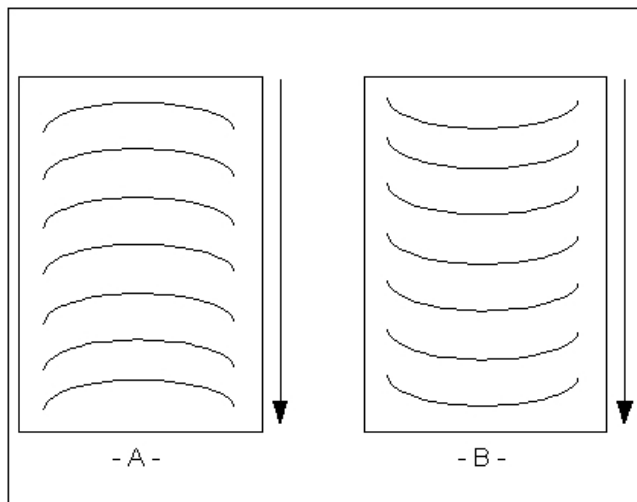

Fig 45
1. "D" waves in the image (Figure 45 A).
2. "D" waves in the laminate (Figure 45 B).